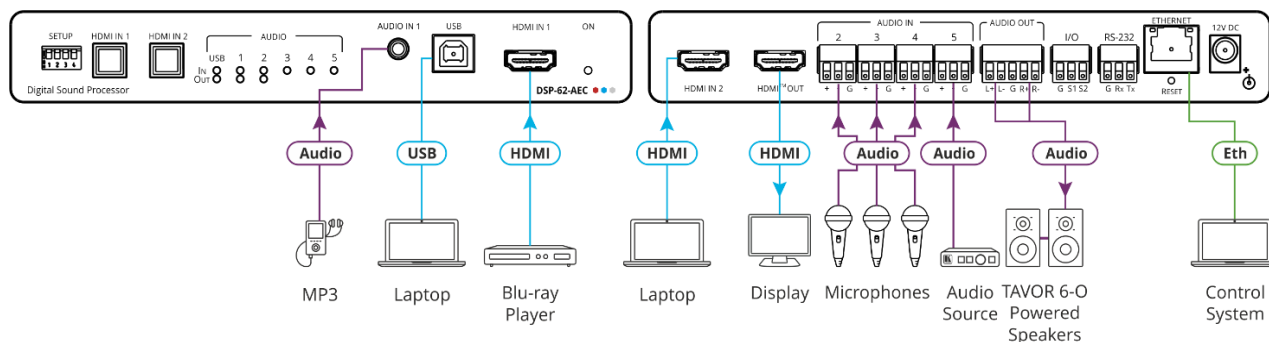

Figure 5: Connecting to DSP-62-AEC
To connect DSP-62-AEC as illustrated in Figure 5:
1. Connect an unbalanced stereo audio source (for example, an MP3 device) to the AUDIO IN 1 3.5mm mini jack (6).
2. Connect a USB source (for example, a laptop) to the USB host port (7).
3. Connect an HDMI source (for example, a Blu-ray player) to the HDMI IN 1 connector (8).
4. Connect an HDMI source (for example, a laptop) to the HDMI IN 2 connector (10).
5. Connect up to 4 balanced mono audio sources (for example, microphones) to the AUDIO IN 3-pin terminal block connectors (13).
6. Connect the HDMI OUT connector (12) to an HDMI acceptor (for example, a display).
7. Connect the AUDIO OUT 5-pin terminal block connector (14) to a balanced stereo acceptor (for example, a powered speaker).
8. Connect a control system to the ETHERNET RJ-45 port (17).
9. Connect the 12V DC power adapter to **DSP-62-AEC** to the mains electricity (not shown in Figure 5).